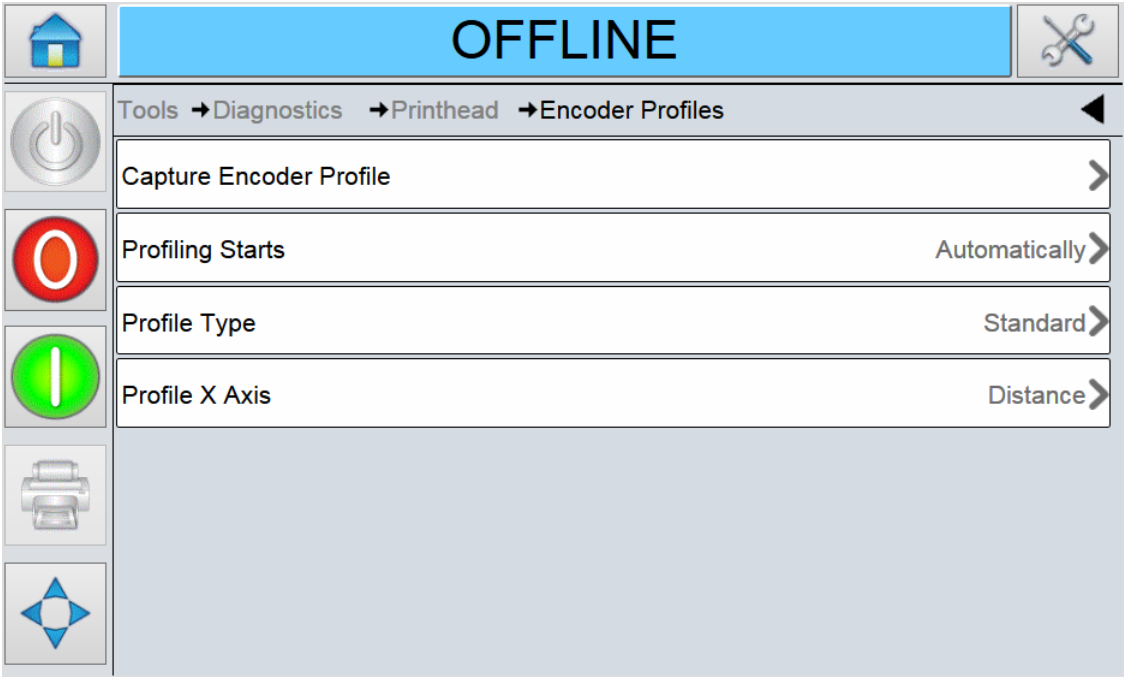

Figure 5-16: Encoder Profiles Screen
1. Touch Encoder Profiles on the Printhead screen to access the Encoder Profiles parameters (Figure 5-16).